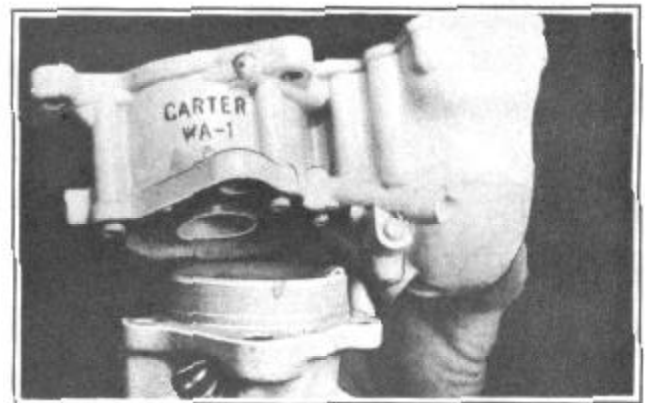

FIGURE 18
11. Separate body from flange assembly, Figure 18, and remove body flange gasket.